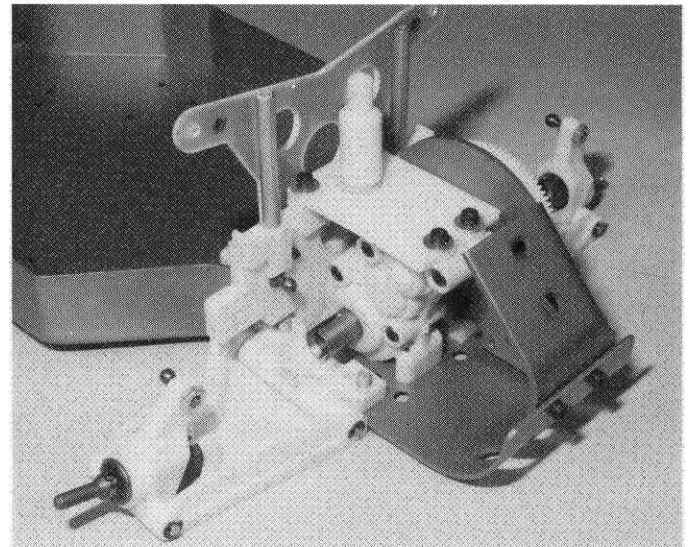

Fig. 85
□ **Fig. 85** Your L.H. rear end should look like this now.